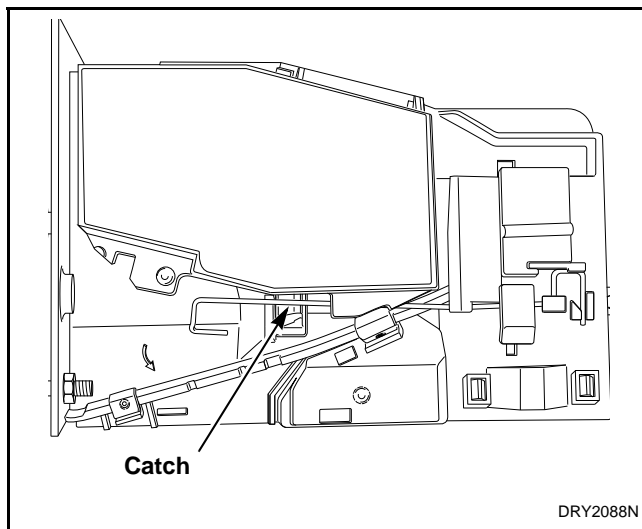

Figure 54
- Move spring downward until cover catch is free. Refer to *Figure 54*.